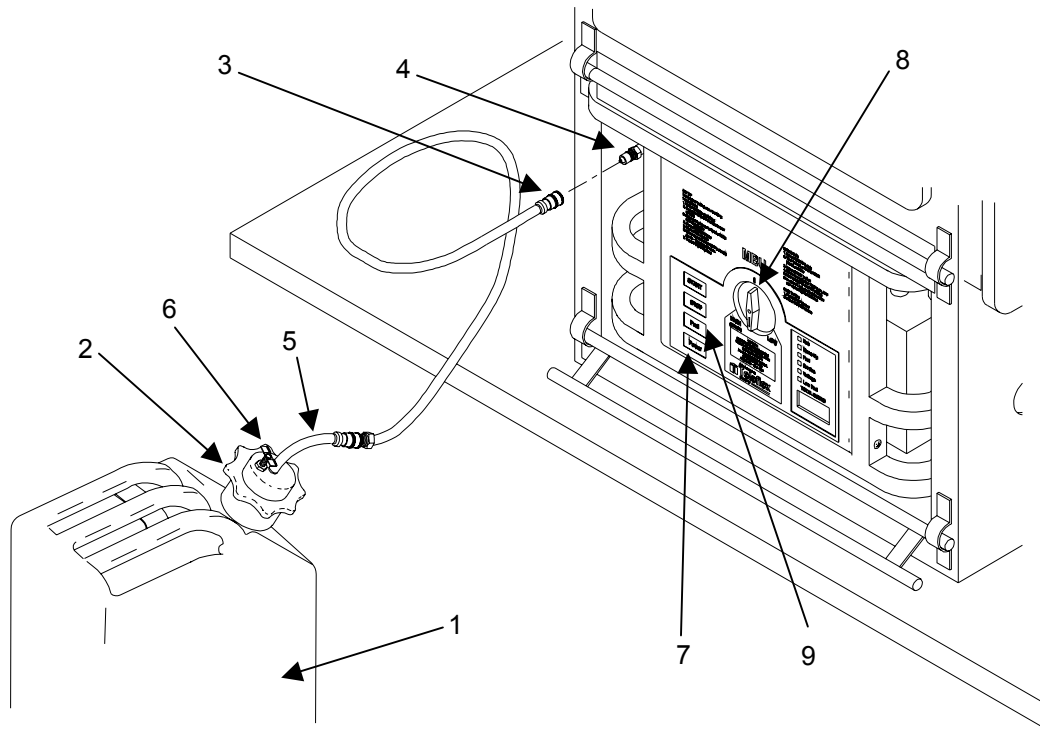

Figure 10. Powered Fueling of MBU
1. Position fuel container (**figure 10, item 1**) containing JP-8 fuel, equipped with a fuel can adapter (**figure 10, item 2**), within 20ft of the MBU to be fueled. If refueling an MBU on a MKT, the fuel can must be kept on the ground outside the MKT. The fuel can is **NOT** to be brought onto the MKT.
2. Connect the coupling (**figure 10, item 3**) on the fuel supply hose to the fuel fill nipple (**figure 10, item 4**) on the MBU, then connect the connector on other end of the fuel supply hose to the hose connector (**figure 10, item 5**) on the fuel can adapter (**figure 10, item 2**). The couplings of the fuel hose should snap onto the fuel fill nipple and adapter hose securely. Ensure that a positive connection is made to avoid fuel spill and ensure proper operation.
3. Open the manual vent cap (**figure 10, item 6**) of the fuel can adapter (**figure 10, item 2**).
4. Be sure that the MBU is connected to a power source as described earlier and press the POWER button (**figure 10, item 7**) on the MBU. Check that the indicators flash and the hour meter illuminates.
5. Set the burner control (**figure 10, item 8**) to HIGH.
6. Press the FUEL button (**figure 10, item 9**). Check that the air compressor starts and that the Fueling/Full indicator blinks as the fuel tank fills. The Fueling/Full indicator will stop blinking, and remain steadily lit when tank is full. The air compressor will also turn off when fueling is complete.
7. When finished re-fueling, disconnect the fuel hose connector (**figure 10, item 3**) from the fuel fill nipple (**figure 10, item 4**) and adapter hose (**figure 10, item 5**). Connect the two ends of the fuel supply hose together when not in use to prevent spillage and avoid contamination.